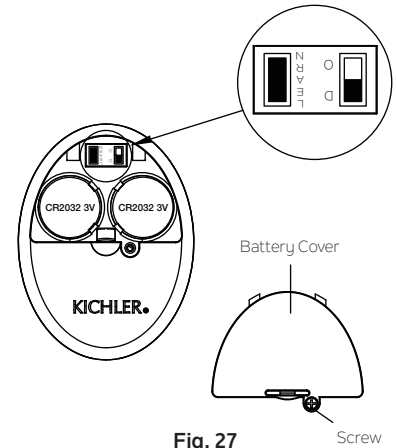

Fig. 27
Otherwise the remote control will not work. To perform this process manually, follow steps below: After installing and wiring the unit, restore power to your fan, press and hold the LEARN key for 1-3 seconds, the fan will turn on at medium speed and light (if installed) will turn on. This confirms that the learning process have been completed. This operation must be completed within 30 seconds after restoring power to the fan. (Fig. 27)
NOTE: Ensure slide switch in battery compartment marked “D O” is set to “D” position. (Fig. 27)
Step 4. Replace the battery cover and tighten with screwdriver. (Fig. 27)